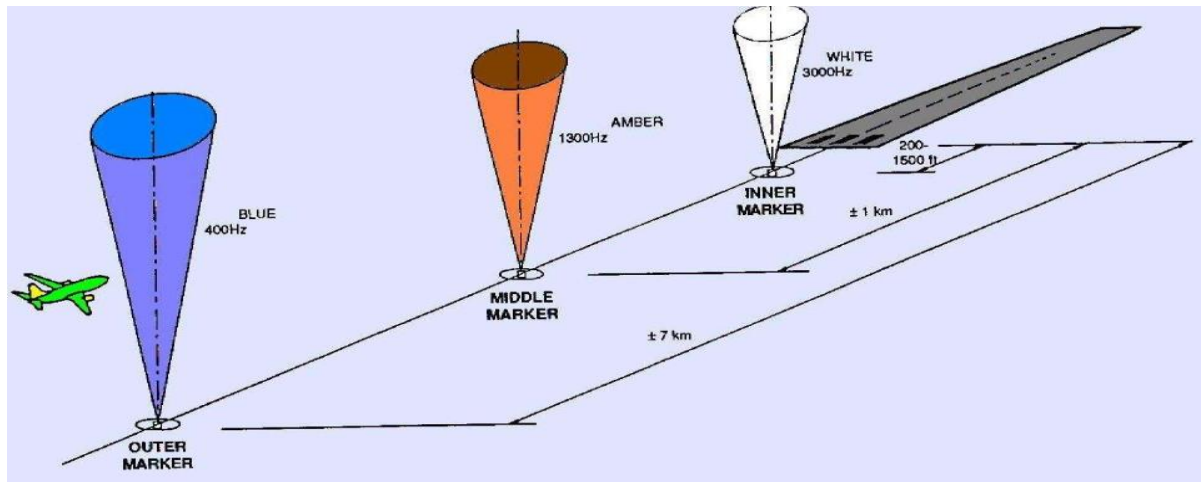

Figure 1
The basic configuration of a HUD is shown schematically in Figure 1. The pilot views the outside world through the HUD combiner glass (and windscreen). The combiner glass is effectively a ‘see through’ mirror with a high optical transmission efficiency so that there is little loss of visibility looking through the combiner and windscreen. It is called a combiner as it optically combines the collimated display symbology with the outside world scene viewed through it. Referring to Figure 1 , the display symbology generated from the aircraft sensors and systems (such as the INS and air data system) is displayed on the surface of a cathode ray tube (CRT). The display images are then relayed through a relay lens system which magnifies the display and corrects for some of the optical errors which are otherwise present in the system. The relayed display images are then reflected through an angle of near 90° by the fold mirror and thence to the collimating lens which collimates the display images which are then reflected from the combiner glass into the pilot’s forward field of view. The virtual images of the display symbology appear to the pilot to be at infinity and overlay the distant world scene, as they are collimated. The function
Figure 1 illustrates the use of a BHMD to implement such a system. When head up, the pilot views the outside world directly, or indirectly by means of a TV display on the HMD from a head steered gimbaled electro-optical sensor unit (e.g. infrared imaging sensor, low light TV camera or CCD camera) When looking down at the instrument panel, the virtual cockpit computer system recognizes the pilot's head down sight line from the head tracker output and supplies this information to the display generation system. The display generation system then generates a stereo pair of images of the appropriate instrument display on the panel which corresponds to the pilot's sight line. Thus, looking down into the cockpit at the position normally occupied by a particular instrument display will result in the pilot seeing a 3D image of that instrument display appearing in the position it normally occupies
Figure 1, shows a representative primary flight display. Airspeed is shown on a scale on the left with pressure altitude and vertical speed on the right hand scales. Aircraft heading information is shown on a 'tape' scale type format below the attitude display. The artificial horizon/attitude display has a blue
Q. Figure 1, shows the INSTRUMENT LANDING SYSTEM (ILS) explain the functions of each part and How this system operates ?
Q14. Figure 1, shows the marker beacons system, answer the following ;